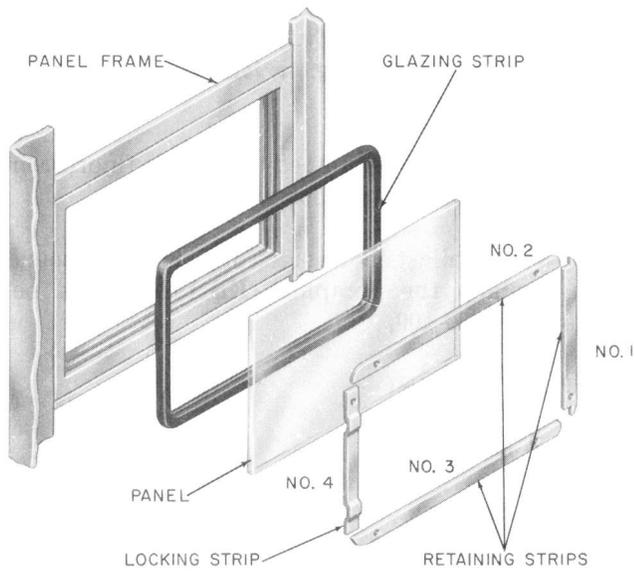

Fig. 20—Assembly of Side or Rear Panels
**4.06** Booth panels and signs are held in place by four interlocking retaining strips. They are inserted in sequence as shown in Fig. 20. The No. 4 strip is rippled and is held in place by interface friction.
- (7) Replace retaining strips in sequence as shown in Fig. 20.
4.11 After roof is removed, the side and rear signs are removed in the same manner as the side panels (see 4.07 and Fig. 20).